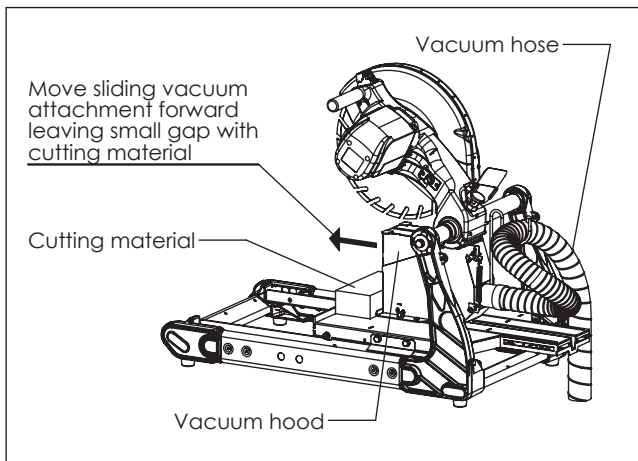

Figure 8: Using the vacuum table
1. Mount the vacuum hose as shown in Fig. 8. Use vacuum hose hook to prevent hose pull-out during use.